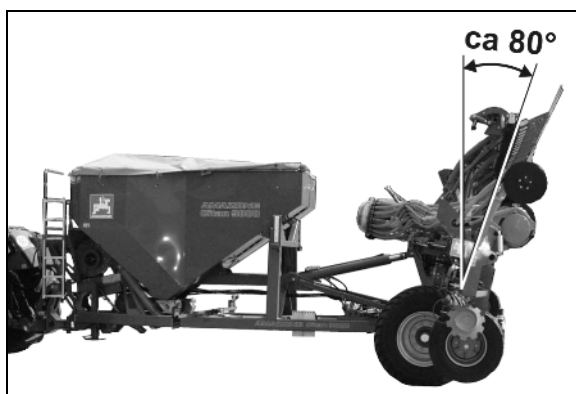

Fig. 111
- Fold the rear frame until an inclination of approx. 80° (Fig. 111).